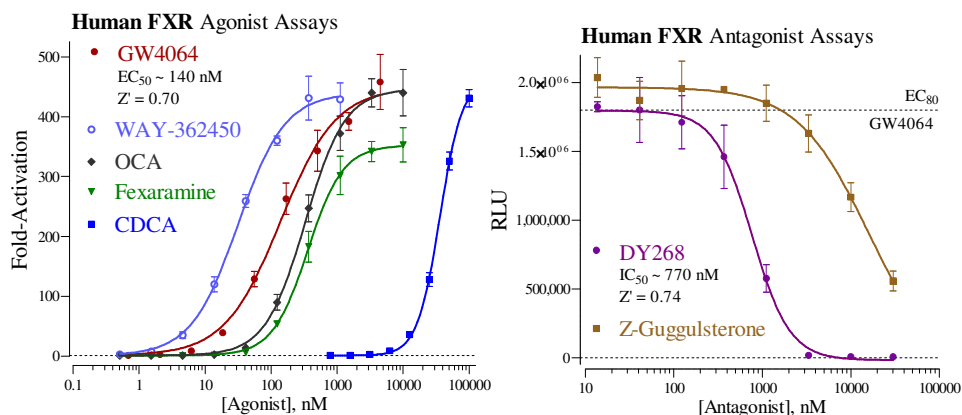

Figure 2. Agonist and Antagonist dose-responses of the FXR Assay.
- *Optional:* antagonist reference compound (see Fig. 2).
Receptor inhibition assays expose the Reporter Cells to a constant, sub-maximal concentration (typically between EC₅₀ – EC₈₅) of a known agonist AND the test compound(s) to be evaluated for antagonist activity. This FXR assay kit includes a 5.0 mM stock solution of GW4064, a potent agonist of FXR (Figure 2) that may be used to setup such receptor inhibition studies. 300 nM GW4064 typically corresponds to ~EC₈₀ in this cell-based assay. Hence, it presents a suitable concentration of agonist to be used when screening test compounds for inhibitory activity.